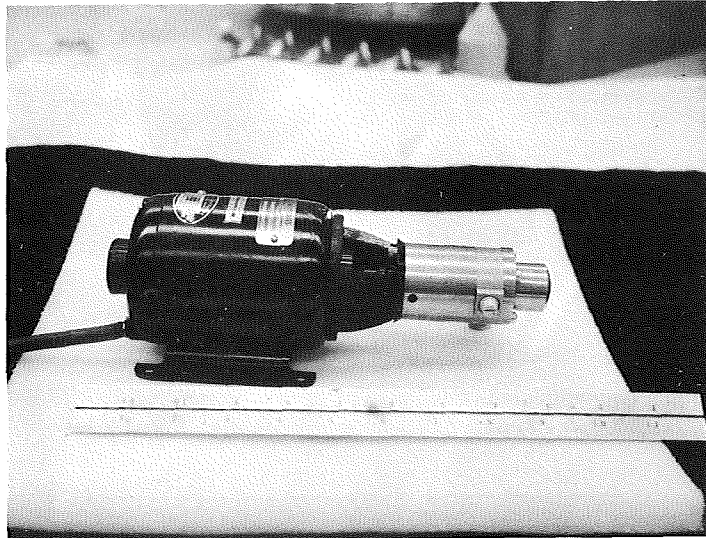

FIGURE 21. WATER PUMP
4.12 Water Pump (See Figure 21)